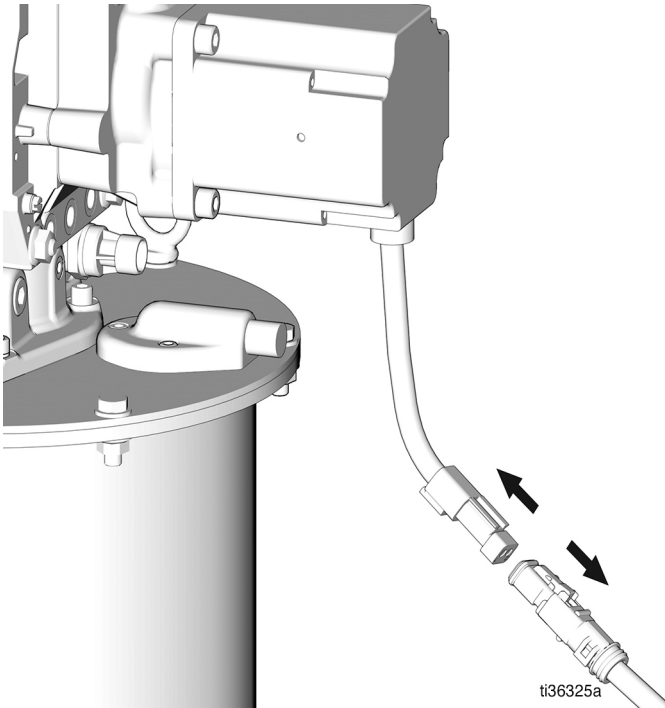

FIG. 10
1. Disconnect power to the system (FIG. 10).